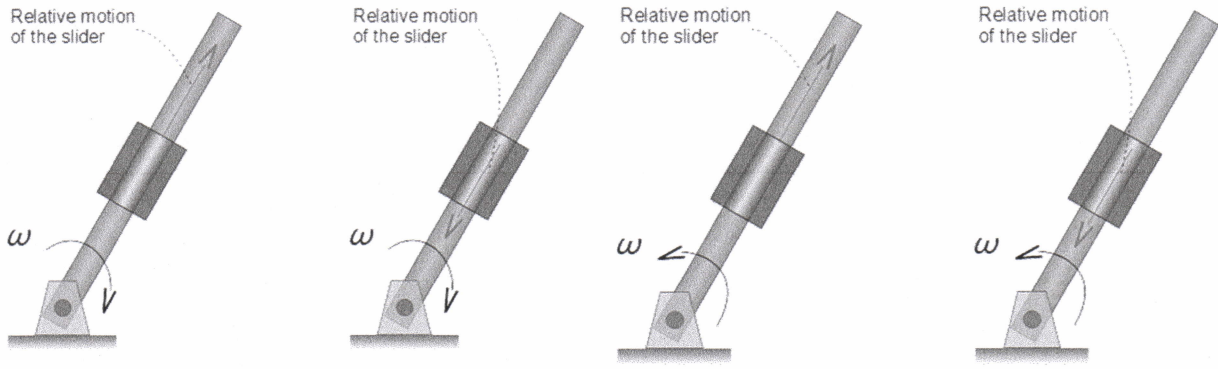

Figure Q3
- Q3** Four configurations of slider motions and the rotation of the cranks are shown in **Figure Q3**.